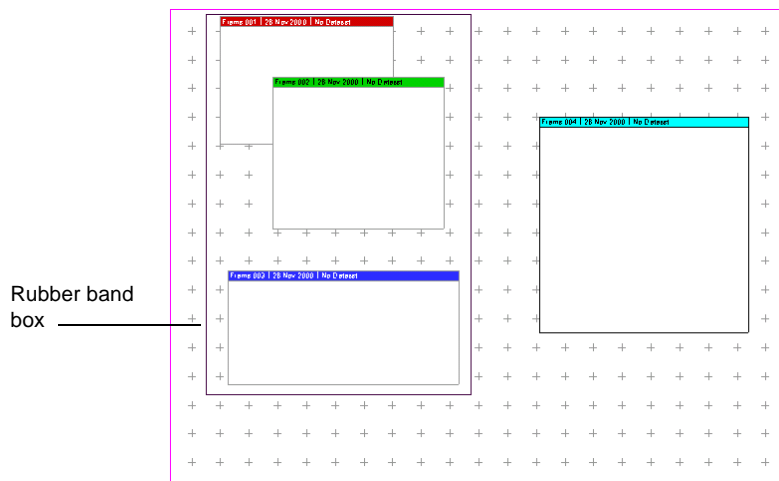

Figure 2-20. A rubber band box around three frames.
3. Drag the pointer until all the desired items are enclosed in the rubber band box, as shown in Figure 2-20.